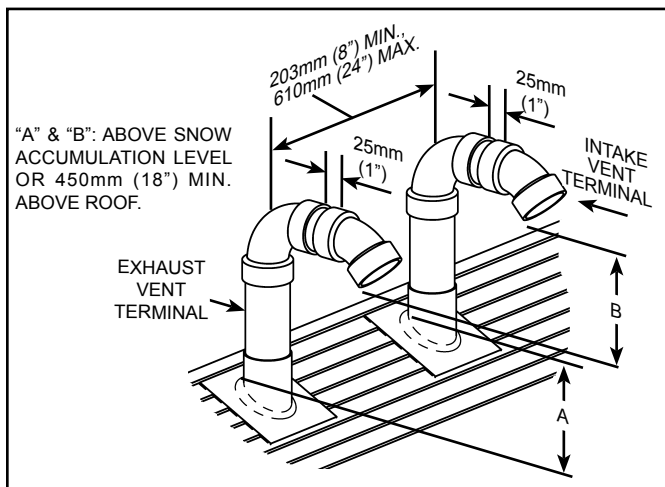
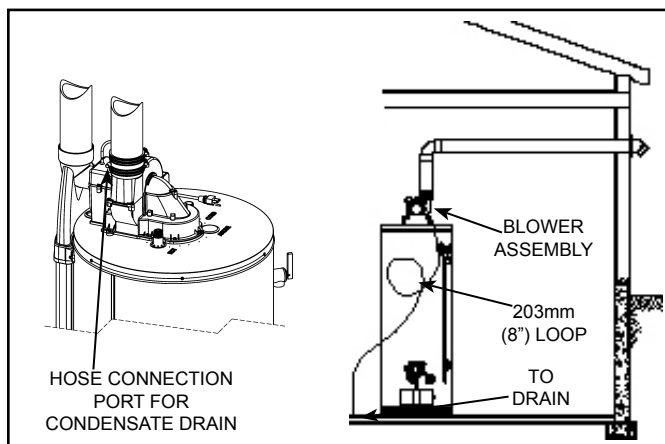

Figure 21
Figure 29
Important: When terminating the vents through a roof, the following specifications pertaining to terminal location must be followed (see Figure 21).
- Refer to Table 3 for vent pipe materials and sizing. If the installation requires a vent riser, suitable drainage must be provided to ensure condensation does not accumulate (see Figure 29). Termination through a roof is shown Figure 21.